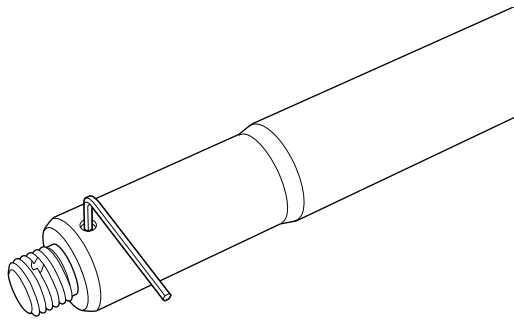

Figure 22: Using Hex Wrench to Loosen M20 Lug Set Screws
2. Loosen the set screws using a 2.5 mm hex wrench. Do not loosen so far that the screws fall out of the pole and are lost (Figure 22).